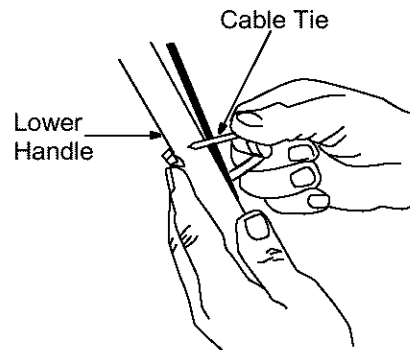

Figure 6
- Attach the cables to the lower handle with the two cable ties already on the lower handle, insert pegs on cable ties into the holes on the lower handle. Pull cable ties tight and cut off the extra. See Figure 6.